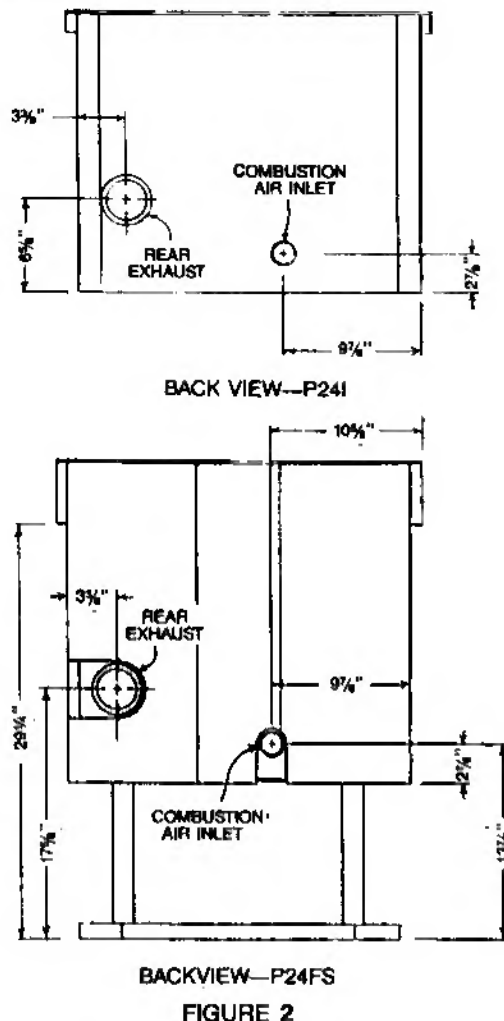

FIGURE 2
For mobile home installation the stove must be connected to an outside source of combustion air. A 1 3/4" inside diameter metallic pipe, either flexible or rigid should be used when outside air is to be connected. It attaches to an outlet on the stove's rear (see figure 2) and its terminus should have a wind hood or be turned 90° to prevent back draft. It should also terminate with a rodent guard. If outside air is not provided, air should NOT be restricted to the combustion air inlet. Hence in P241 installations, flashing vents should be allowed to provide air to the fireplace cavity. The fireplace opening should not be sealed at the face.
2. Locate position of hole in wall, directly behind stove's exhaust vent (see figure 2).